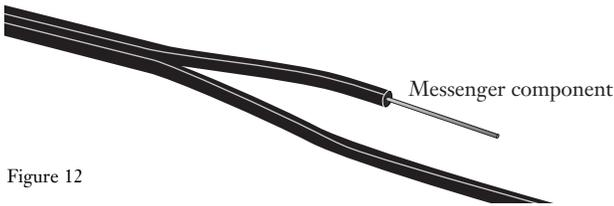

Figure 12
6.4 Remove the necessary length of jacket to bond or ground the messenger (Figure 12) and install it in the closure or other hardware.